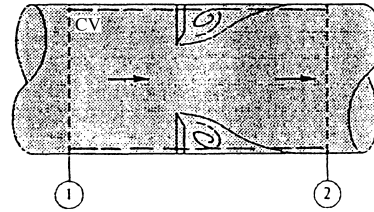

Fig. P3.85
**3.85** The thin-plate orifice in Fig. P3.85 causes a large pressure drop. For 20°C water flow at 500 gal/min, with pipe  $D = 10 \text{ cm}$  and orifice  $d = 6 \text{ cm}$ ,  $p_1 - p_2 \approx 145 \text{ kPa}$ . If the wall friction is negligible, estimate the force of the water on the orifice plate.